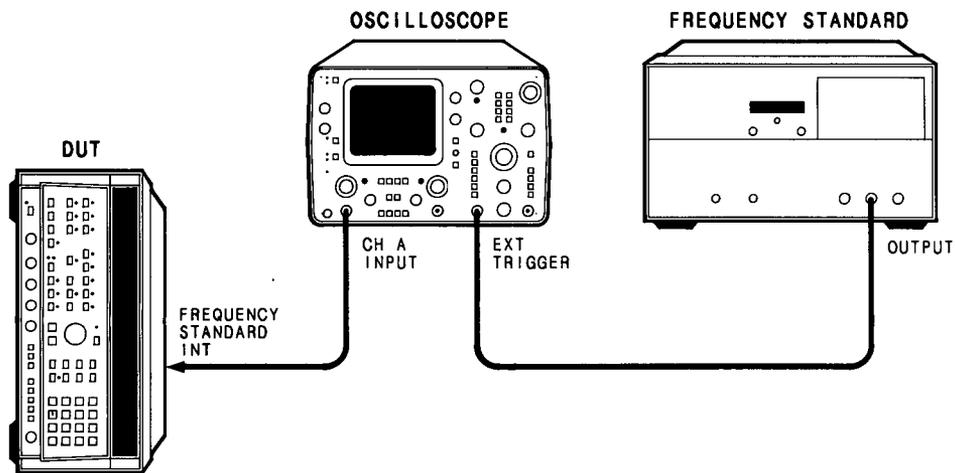

Figure 5-3. 10 MHz Standard Adjustment Setup
1. Connect equipment as shown in Figure 5-3 as follows: